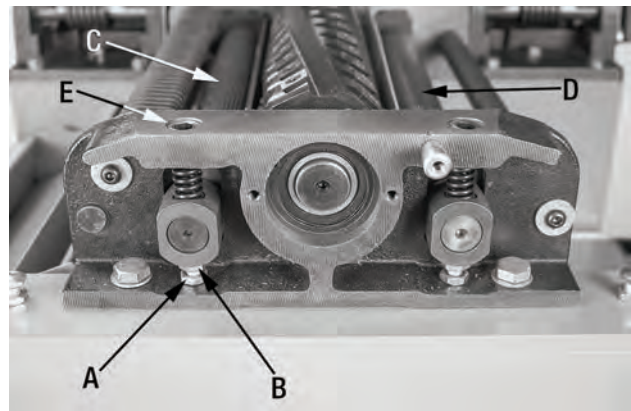

FIGURE 19
3. Loosen hex. nut (A) Fig.19, and rotate hex. bolt (B) to raise or lower that end of the infeed roller (C).
4. Repeat this adjustment with the other end of the infeed roller and both ends of the outfeed roller (D).
6. When the proper setting is achieved, retighten all hex. nuts (A) Fig.19 and make a test cut to verify the setting.
1. Loosen or tighten the set screw (E) Fig.19 at both ends of the infeed roller to adjust the spring tension.